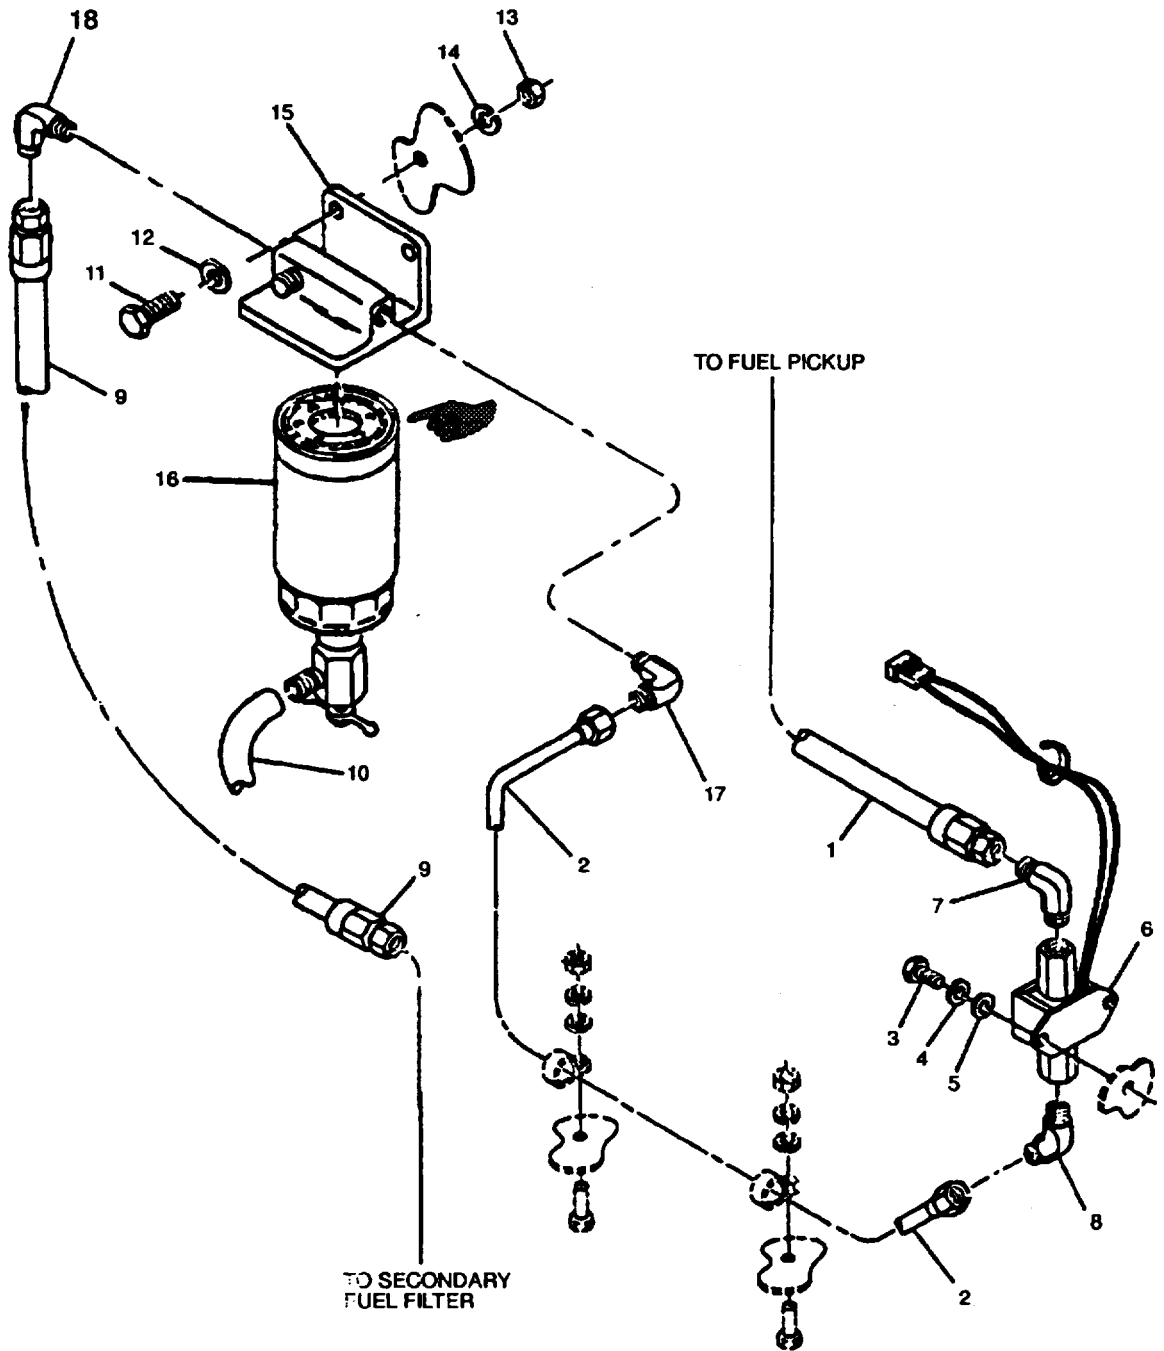

Figure 2-22. Fuel Filter/Water Separator and Transfer Pump
- c. Inspect fuel transfer pump (6, Figure 2-22) for leaks, cracks, missing hardware, and loose connections.
- b. Open left side engine access door and disconnect fuel transfer pump outlet line (9, Figure 2-22) at secondary fuel filter. Place line in measuring container.
- f. Connect fuel line (9) to secondary fuel filter.
- e. Disconnect inlet fuel hose (1, Figure 2-22) from fuel transfer pump (6). Cap hose.
- f. Disconnect outlet fuel tube (2) from fuel transfer pump (6). Cap tube.
- g. Remove bolts (3), lockwashers (4), washers (5), and fuel transfer pump(6) from generator set.
- h. Remove fittings (7) and (8) from fuel transfer pump (6).
- a. Install fittings (7 and 8, Figure 2-22) in fuel transfer pump (6).
- b. Install fuel transfer pump (6) with bolts (3), lockwashers (4), and washers (5).
- c. Remove caps and connect fuel hose (1) and fuel tube (2) at fuel transfer pump (6).
- e. Disconnect fuel outlet line (9, Figure 2-22), inlet line (2), and water drain line (10) from fuel filtered/water separator assembly. Cap all lines.
- f. Remove bolts (11), washers (12), nuts (13), lockwashers (14), and fuel filter/water separator assembly from generator set.
- h. Remove fittings (17) and (18) from base (15).
- a. Install fittings (17 and 18, Figure 2-22) in base (15).
- c. Install fuel filter/water assembly in generator set with bolts (11), washers (12), lockwashers (14), and nuts (13).
- d. Remove caps and connect water drain line (10), fuel outlet line (9), and fuel inlet line (2) to fuel filter/water separator assembly.
- c. Disconnect water drain line (10, Figure 2-22) from element (16).
- d. Unscrew and remove fuel filter/water separator element (16) from base (15).
- c. Install fuel filter/water separator element (16, Figure 2-22) on base (15). Hand-tighten only.
- d. Connect water drain line (10) to element (16).